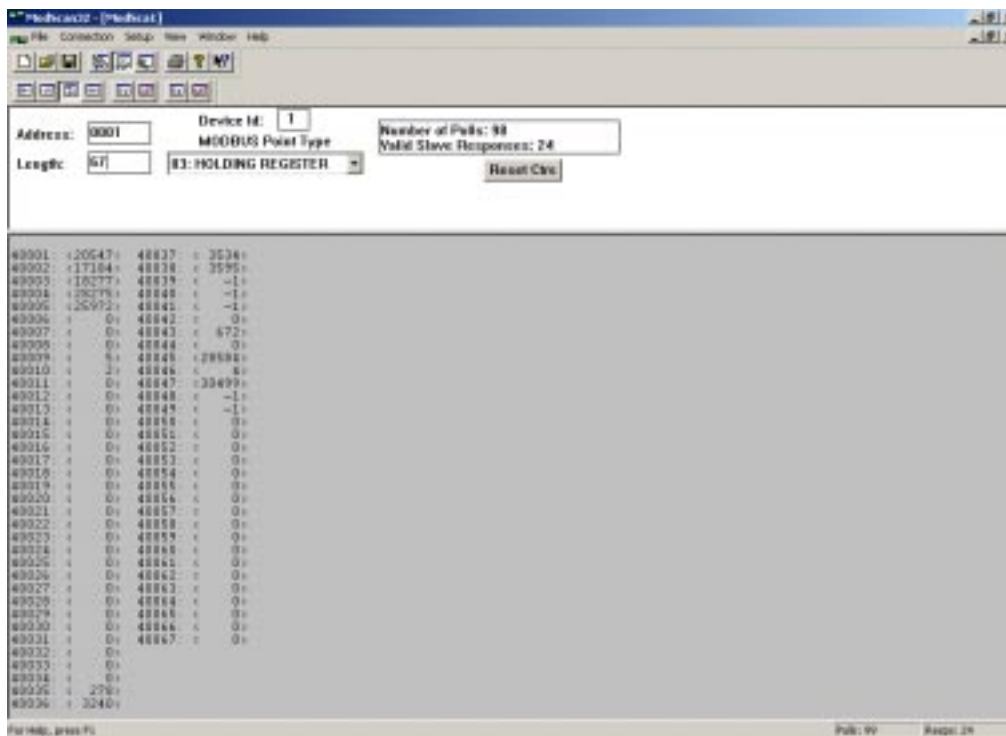

FIGURE 18. MODBUS POINT TYPE = HOLDING REGISTER
- On the main ModScan screen (see Figure 18), Change the Address to 1001, the Length to 49 (ModLon Mapping Template 1 or 65 (ModLon Mapping Template 2, ModLon Mapping Template 3), and the Device ID to 1. From the MODBUS Point Type pull down menu, select "03: HOLDING REGISTER."